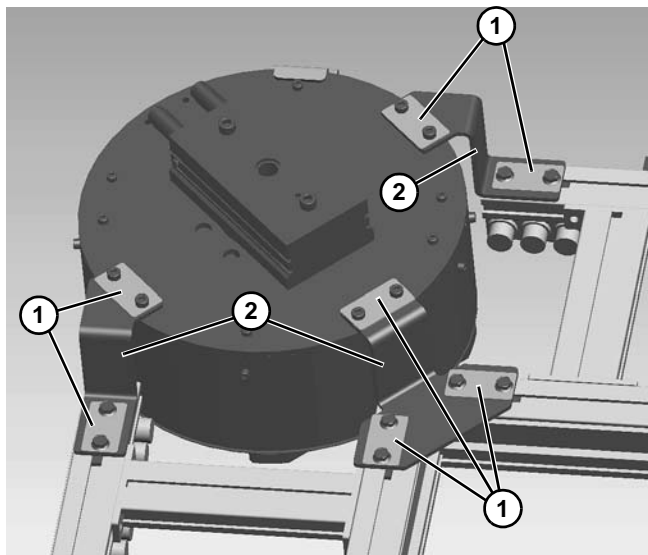

Figure 75
5. Adjust height by adding or removing shims (12 included). Adjust height so rollers of module are even with infeed and discharge conveyors. Remove shims (**Figure 75, item 1**) from bottom of brackets (**Figure 75, item 2**) and place between brackets and module.